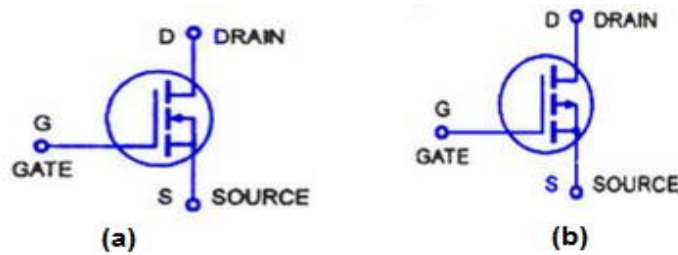

Fig. 4.22 Symbol of n-channel D-MOSFET
- Fig. 4.22 (a) shows the schematic symbols for n-channel E-MOSFET and Fig. 4.22 (b) shows the schematic symbol for p-channel E-MOSFET.